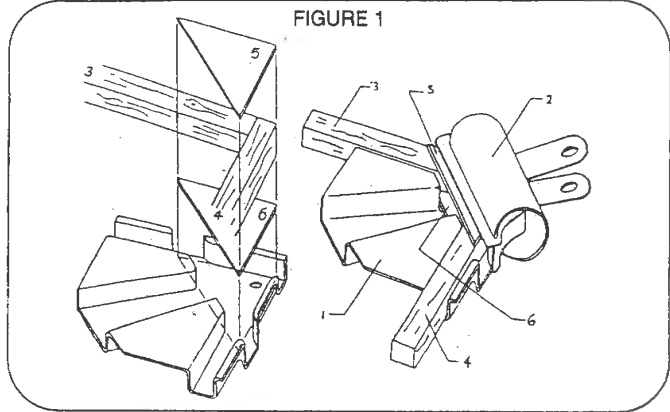
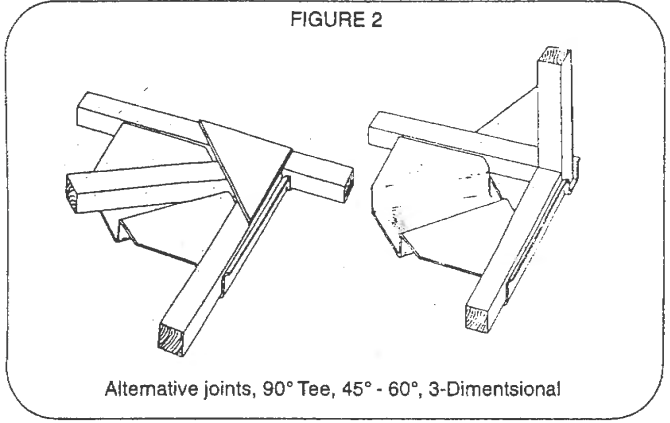

FIGURE 1
FIGURE 2
1. Cut two cardboard triangles (5,6) to fit JOINTER (Fig 1).
2. Smear one side of a card triangle (6) with PVA adhesive and place in JOINTER with glued side facing up (fig 1).
3. Decide configuration of structure and fit pieces of wood (3,4) into JOINTER. See (fig 2) for some alternatives to a simple right-angled joint. Glue and fit in position second card triangle (5), secure joint in JOINTER using a 'Buildog Clip' (2), (fig 1).